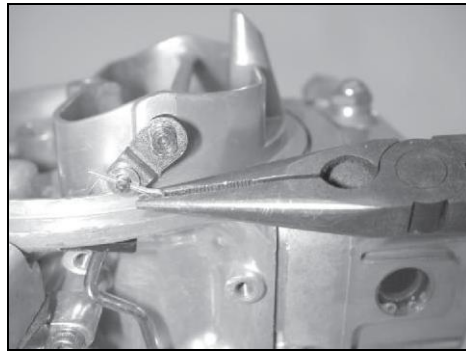

Figure 7
6. Insert the choke rod through the hole on the end of the bracket on the choke butterfly shaft (Fig. 7). Secure the rod with the 1/2" cotter pin.